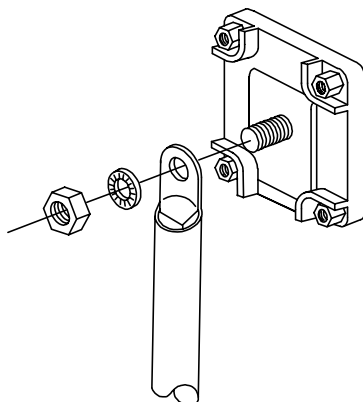

Figure 2-5 DC Cable Connection
Use only appropriately sized copper cable. Loose connections or improper connections will overheat. Make sure the bolts supplied by Xantrex on the inverter/charger are tightened to a torque of 15–16 ft-lbs (20.4–21.7 Nm). Torque all other connections to the manufacturer's specifications. Make sure the DC cable, washers, and bolt are assembled in the order shown in Figure 2-5.
4. Place the ring terminal of the POSITIVE (+) cable over the bolt and directly against the inverter's battery terminal. Place a lock washer over the terminal. Do not place the lock washer under the cable terminal. Figure 2-5.
10. Place the ring terminal of the NEGATIVE (–) cable over the bolt and directly against the inverter’s battery terminal. Place a lock washer over the terminal. Do not place the lock washer under the cable terminal. Figure 2-5.